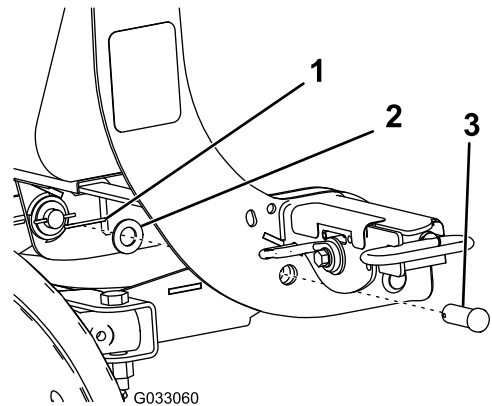

Figure 8
5. Align the pivot holes of the coupler tower with the pivot holes on the push-frame assembly, and secure them as shown in Figure 8.